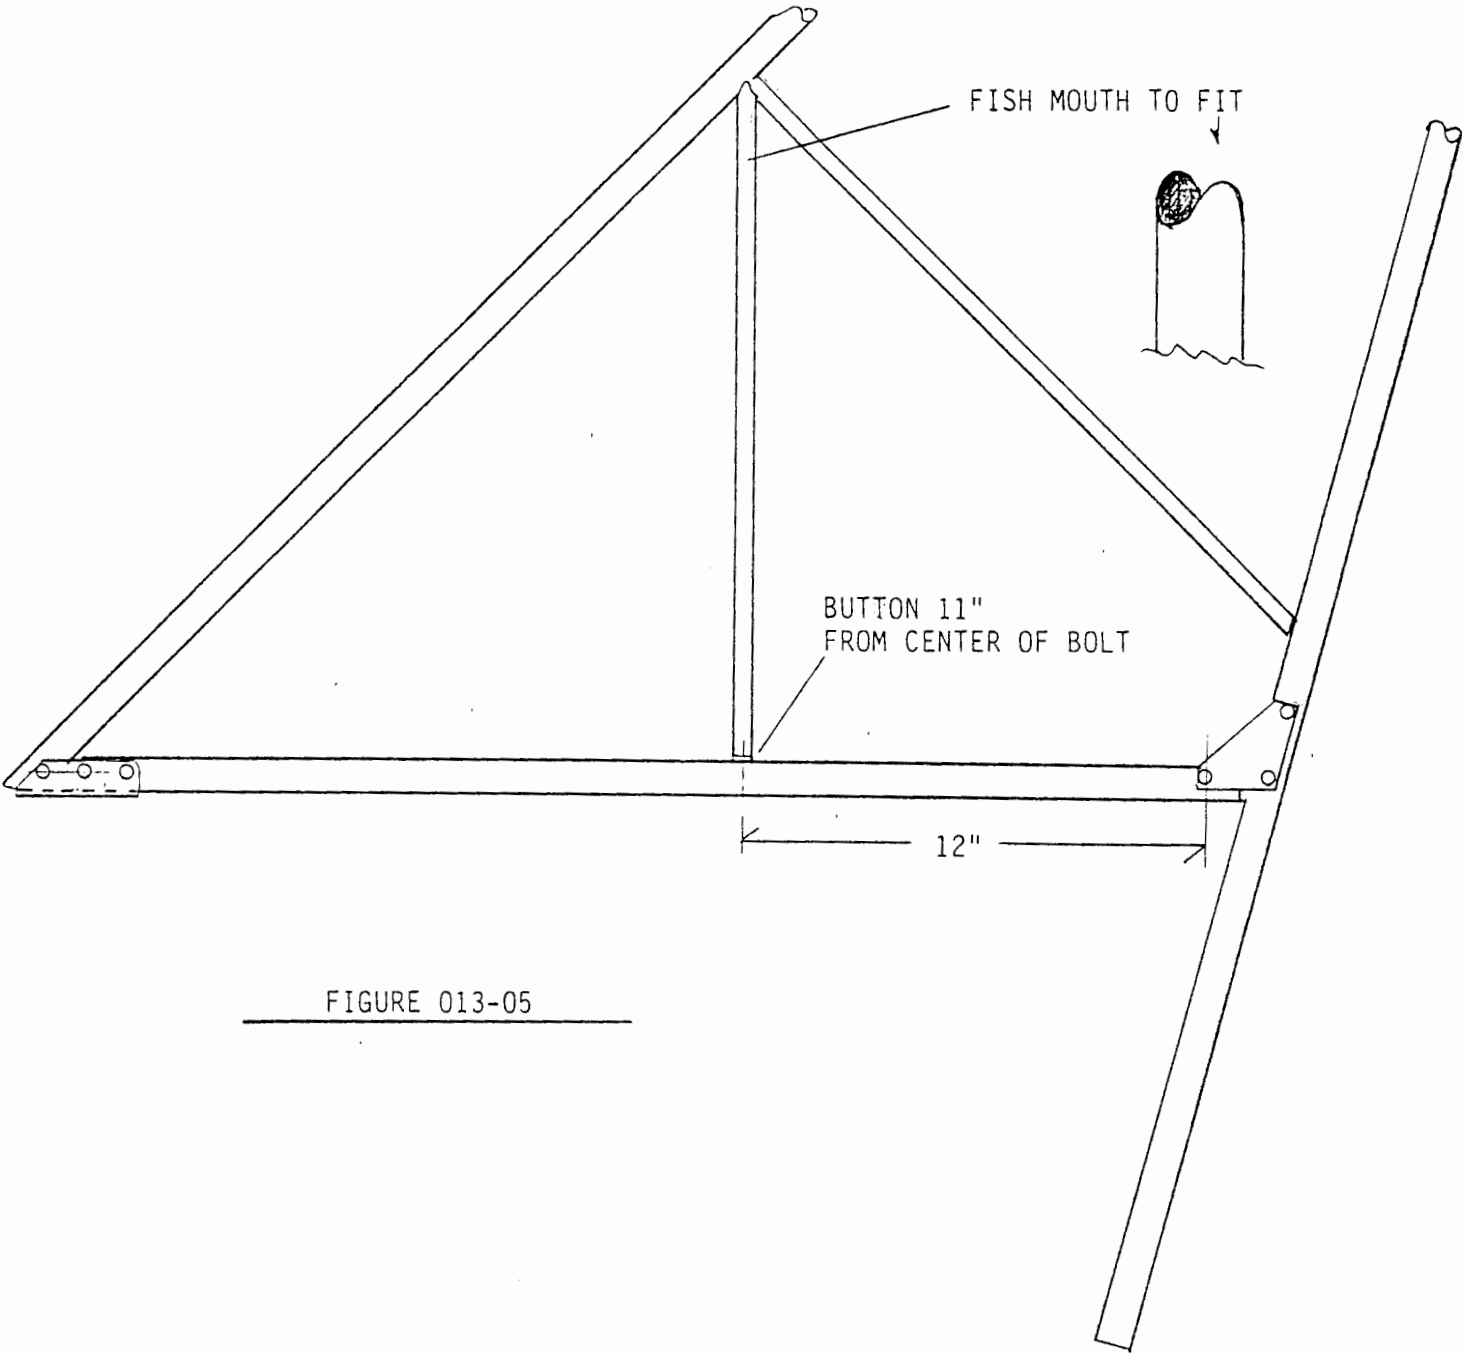

FIGURE 013-05
5. Fit the internal brace tubes to the vertical fin frame by cutting to the approximate length and test fitting. Fit the longer one first. The second internal brace should run from the upper intersection of the longer brace straight down to the spreader bar. It should intersect the spreader bar at 90 degrees. Refer to Figure 013-05 for button location. Drill a 3/16" hole and pop rivet a 3/16" thick washer in place. Cut a fish mouth shape in the second tube to help it fit the upper intersection.